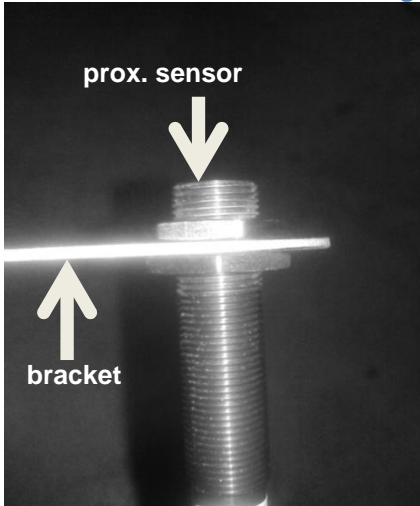

Figure 5: Proximity sensor fasten on bracket
2. The proximity sensor should be loosely fitted to the bracket with 2x M12 nut with 19mm wrench as shown in **Figure 5**.